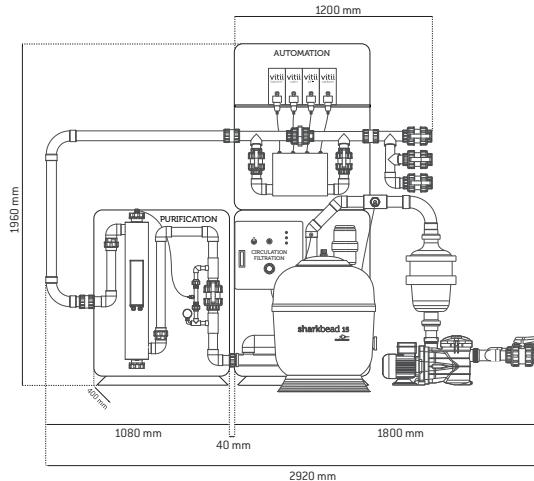

FIG. 4: SOLUTION FOR THE ASSEMBLY OF VITII 15 IN 2 STANDARD STAGES
**Figure 4 and Figure 5** shows a 2-stage assembly solution while **Figure 6 and Figure 7** shows a number of possible variants. All 2-stage combinations require additional connections not provided in the basic kit. 2-stage assemblies are also performed from right to left and from bottom to top.